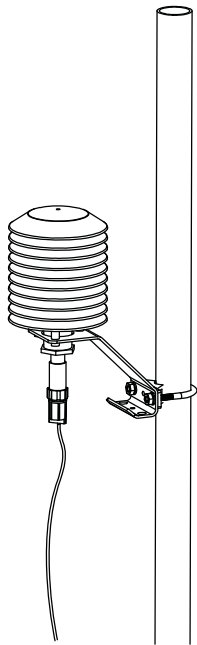
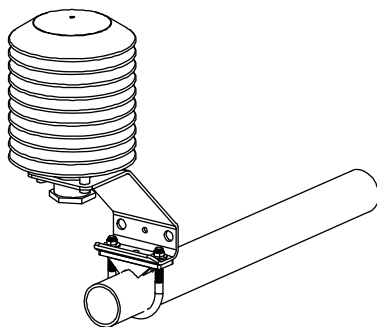

FIGURE 1-1. 083E mounted in a 41003-5 radiation shield
FIGURE 4-1. 41003-5 radiation shield mounted on a crossarm
Figure 1-1 shows the 083E installed in a 41003-5 radiation shield. Figures 4-1 and 4-2 show the radiation shield mounted on a crossarm and a mast, respectively.
2. Attach the radiation shield to the tripod mast, crossarm, or tower leg using the supplied U-bolt. See Figures 4-1 and 4-2 for examples of shield mounting.